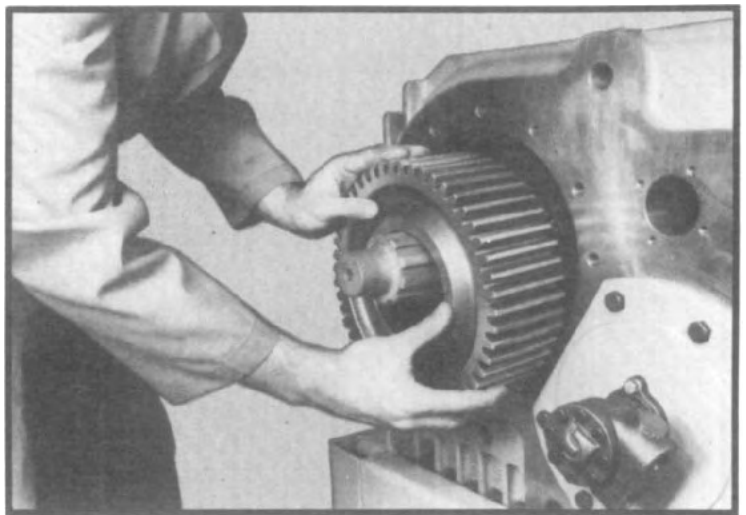

Fig. 105
- 1.10 Install the direct drive gear through the rear case bore and onto rear of shaft with clutch face inwards. (See fig. 105) Remove chain hoist support from shaft assembly.